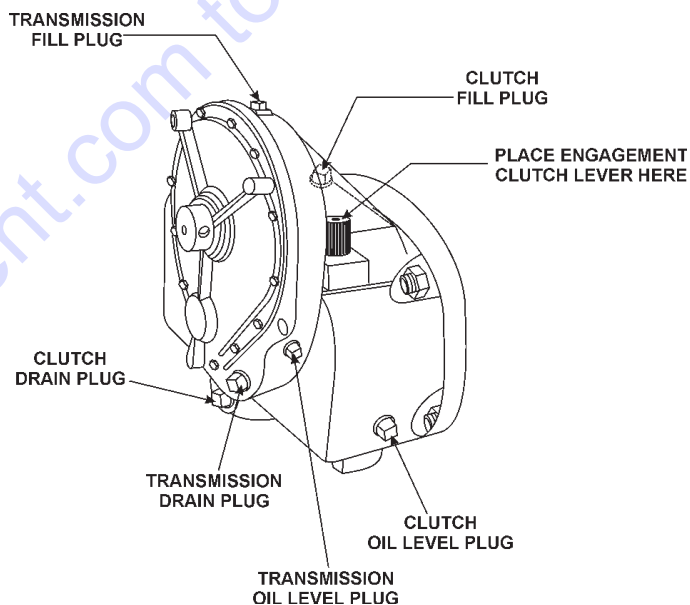

Figure 19. Transmission/Clutch Lubrication
- Remove the clutch **oil level plug** (Figure 19). If oil begins to seep out as the plug is being removed, then it can be assumed that the clutch oil is at the proper operating level.
- Remove the **transmission oil level plug** (Figure 19). If oil begins to seep out as the plug is being removed, then it can be assumed that the transmission oil is at the proper operating level.